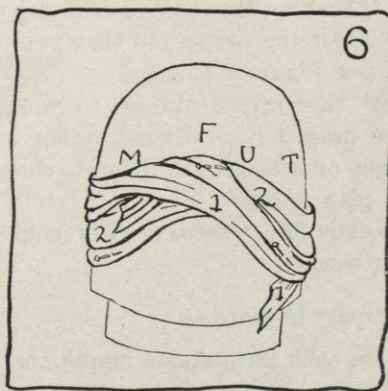

FIG. 6.
- r. Slip the folded end of the second bias strip under the first at your right side front and pin in place underneath (see point *U* in Figure 6). This is where you started to drape the second strip. You will have to take out some pins in the first strip in order to slip the second strip under it. Be sure to replace the pins.